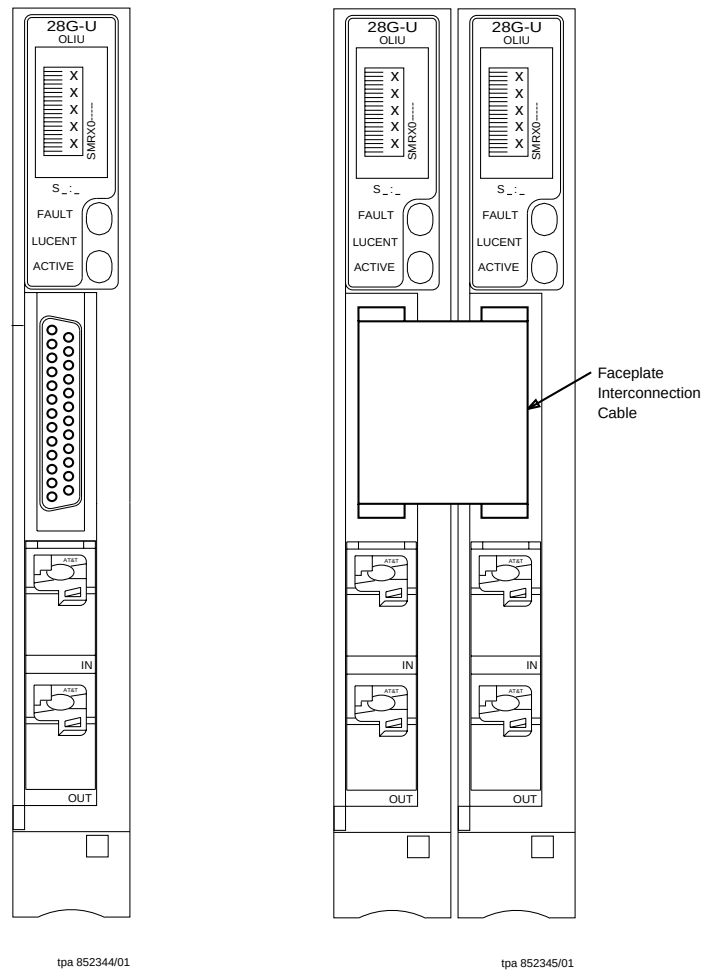

Figure 1. 28G type OLIU Circuit Pack — 28G type OLIU Pair with Faceplate Interconnect Cable Assembly [comcode (847721271)]
10. Install the Faceplate Interconnection Cable Assembly (see Figure 1).